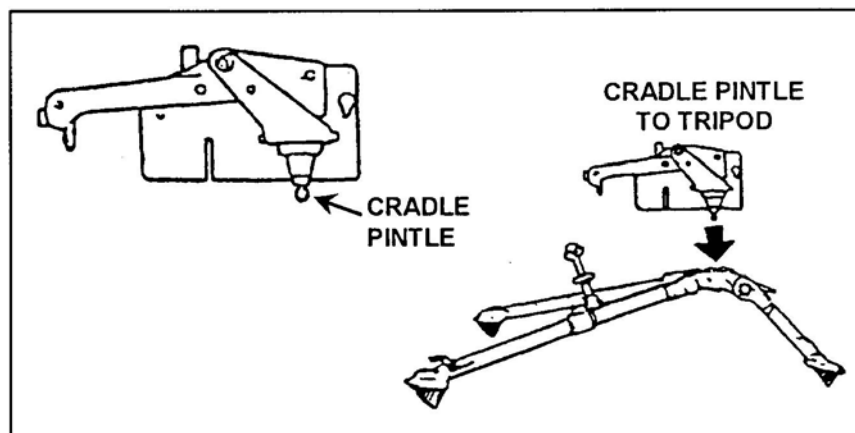

Figure 3. Placing the MK64 Gun Mount Pintle Into the Tripod
- b. Place the MK64 gun mount pintle into the tripod (Figure 3) until it sits flush on the tripod head. Flip down the pintle lock on the tripod.